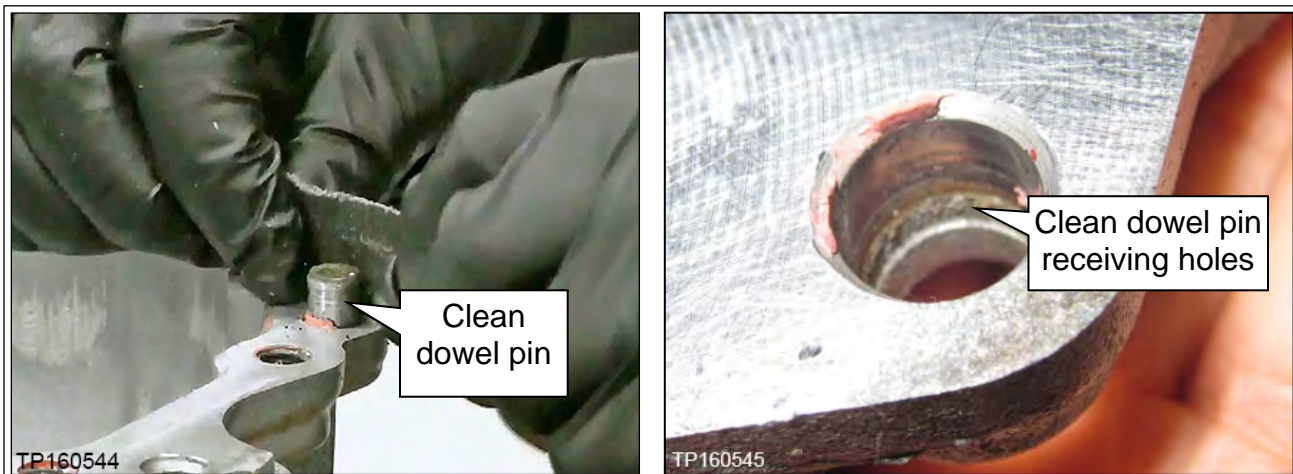

Figure 60
- Make sure rust and debris have been cleaned off of dowel pins and receiving holes (Figure 60).
35. Clean the dowel pins and dowel pin receiving holes of any rust or debris with emery cloth (Figure 60).